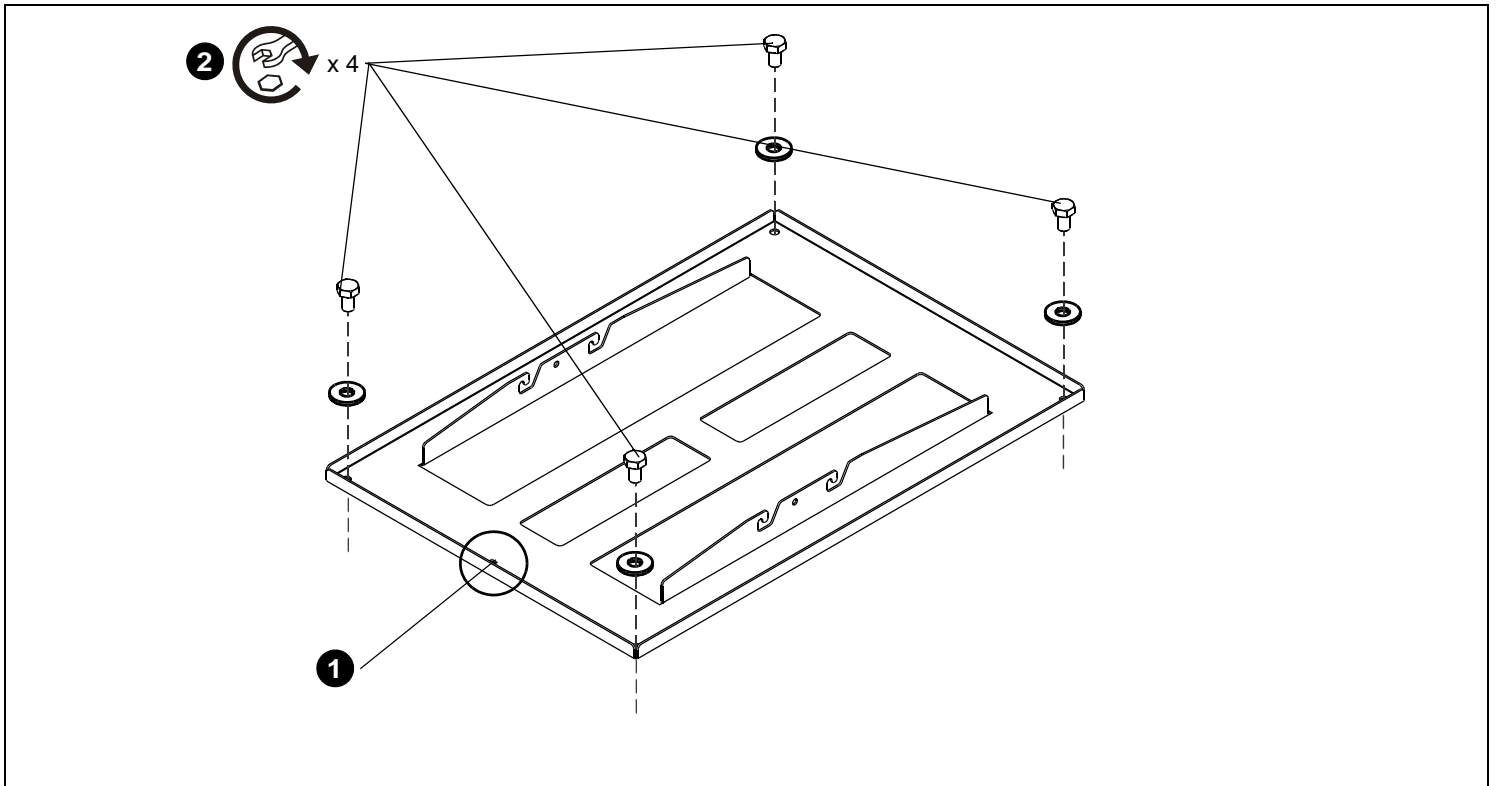

Figure 1
1. Lower custom HB bracket onto top of projector. Ensure that triangle in bracket points toward front of projector. (See Figure 1)
2. Attach HB bracket to projector using four M12 x 20mm hex head cap screws through four M12 washers and holes in the HB bracket. (See Figure 1)